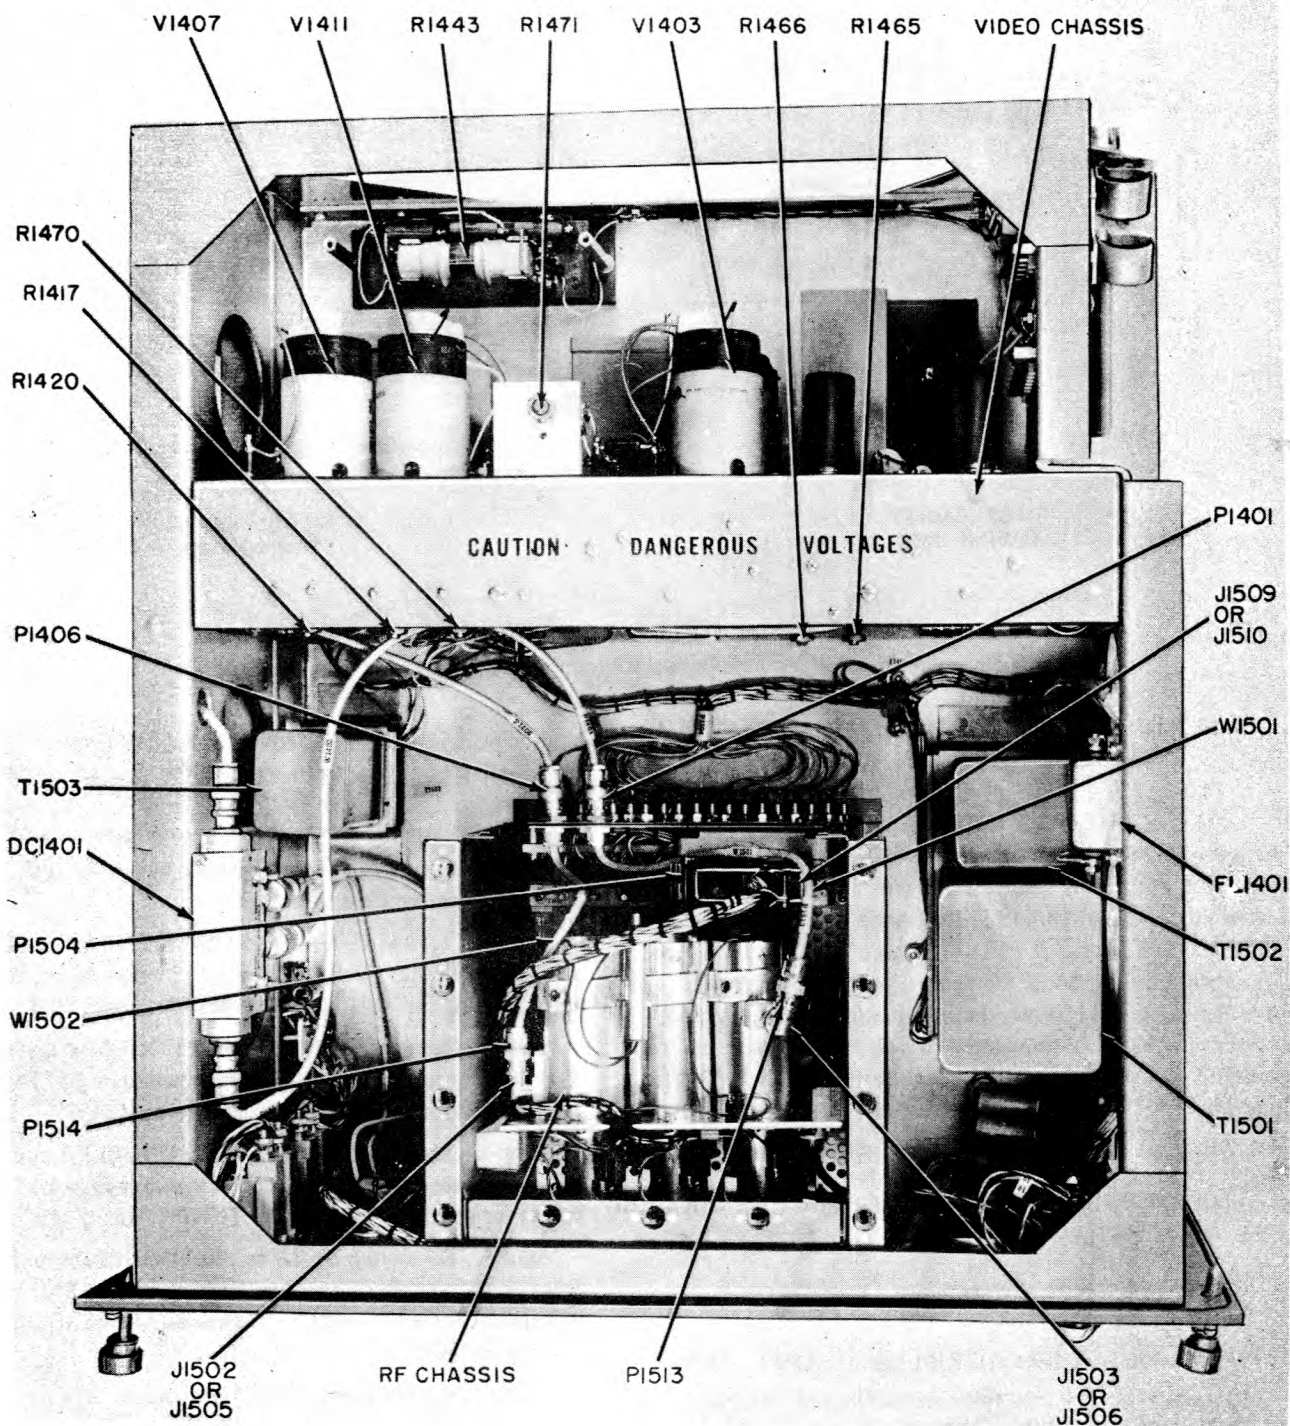

Figure 2-17. Frequency Multiplier-Oscillator CV-1171/GRN-9D, Top View
(1) GENERAL.—If the desired output frequency falls between 962 and 1024 mc, the low-band r-f chassis is used, power plug P1504 is connected to jack J1510, the receiver local oscillator signal plug P1514 on cable W1502 is connected to jack J1505, and plug P1513 on cable W1501 is connected to output jack J1506. If the desired output frequency falls between 1151 and 1213 mc, the high-band r-f chassis is used, power plug P1504 is connected to jack J1509, the receiver local oscillator signal plug P1514 is connected to jack J1502, and plug P1513 is connected to the output jack J1503 (figure 2-17).
Step 2. Set switch S1401 to OSC, and adjust oscillator tuning coil L1502 (high band) or L1513 (low band) for maximum reading on TUNING meter M1401 (figures 2-17 and 2-18).
Step 5. Reduce grid drive voltage to zero by turning CODER-INDICATOR switch to OFF and potentiometer R1470 located on the frequency multiplier-oscillator video chassis, completely counterclockwise (figure 2-17).